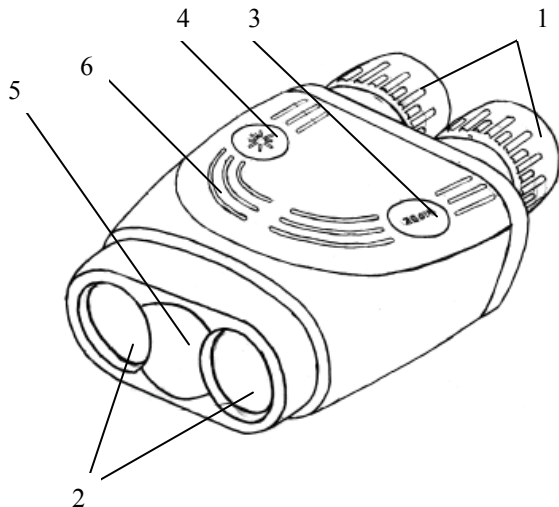

Fig. 1. Front view
- Rotate the battery compartment cover (5, Fig. 1) counter clockwise and pull it open
- Close the battery compartment cover (5, Fig. 1).
- Adjust the eye relief distance by moving collapsing eyepieces (1, Fig. 1) in lengthwise direction.
The LRB 3000PRO operational procedures are design to allow the user to use most applicable options in the fastest time possible. To activate it, press and hold Action button (6, Fig.1) for one second. At start the unit comes into Ready to Measure mode indicated by the word 'READY' on the display visible through the eyepiece.
Pressing Action button (6, Fig. 1) again will initiate measurement procedure. The results of measurement are displayed in default form of Distance (M) and Azimuth (mils) measurement parameters, which also can be modified to user preference (see Operation and service modes).
Pressing Mode button (3, Fig. 1) gives the user the options to change settings from Factory default to specific modes required by user. For full list of Mode options please refer to Operation and Service modes
Pressing Mode button (3, Fig.1) in *Ready* mode switches the unit between modes of operation, to activate any desired mode from the menu you must confirm your selection by pressing Action button (4, Fig.1)